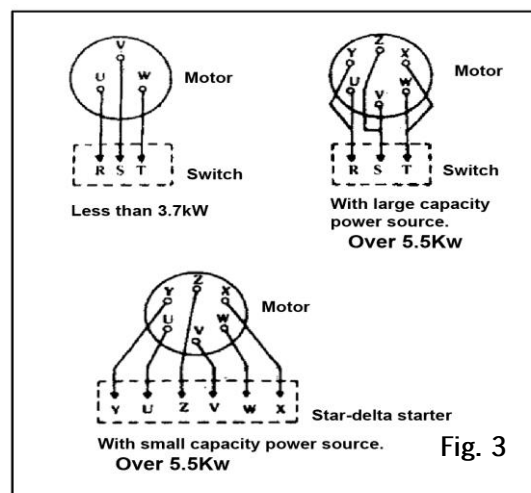

Fig. 3
- (1) Refer to Fig. 3 for correct wiring it is important that wiring be correct and that motor is properly grounded.
- (2) Check the following points before turning on operation switch: